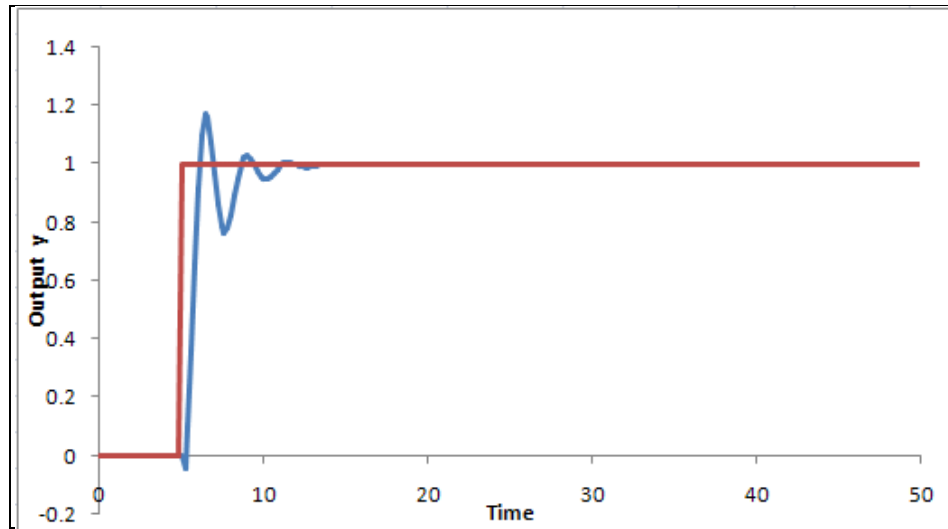

Figure 4.
6. Plot the controlled response together with the setpoint trajectory to check for acceptability. (see Figure 4.)